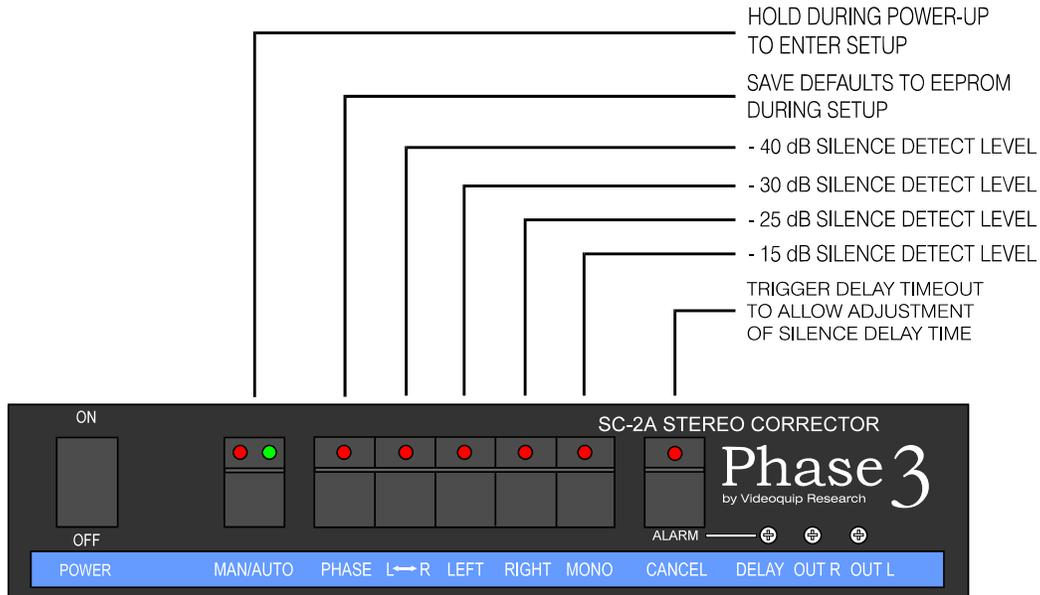

FIGURE 3 - ALTERNATE KEY FUNCTIONS DURING SETUP MODE
The red and green LED's associated with this switch will flash alternately back and forth to alert the user to the fact that the SC-2A is in setup mode, since in normal operation this action will not occur. The normal pushbutton key functions are modified in this state to allow the user to set the parameters of operation with the same keyboard. Figure 3 shows the alternate key functions during setup mode.
- 1) **Silence Detection Level** – Uses the **L ↔ R**, **LEFT**, **RIGHT** and **MONO** switches to set the silence level. Signals below these levels in either left or right channel are interpreted as being silent after the silence timeout interval has expired. Refer to Figure 3 to select one of four silence level selections.